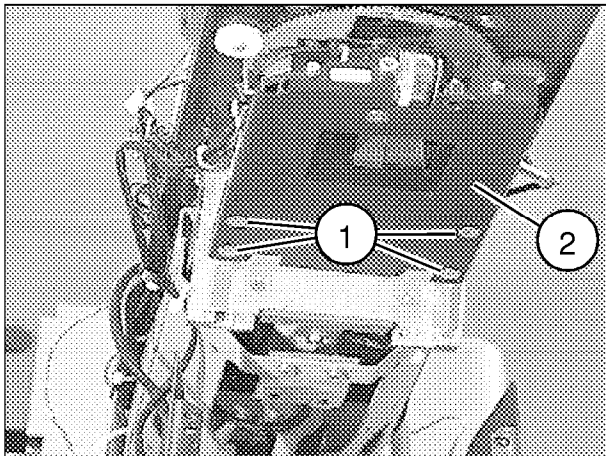

Fig. 5
- Remove the 4 screws (1/Fig. 5) from the collimator.